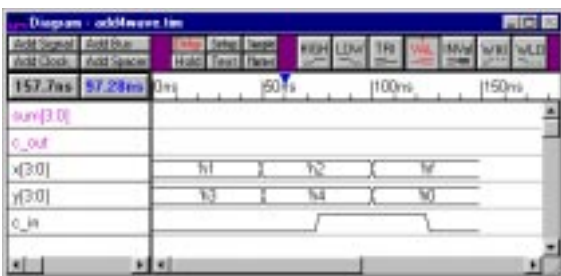

Figure 2: Stimulus vectors for the 4-bit adder circuit
Your drawing should be a mess, or at least look nothing like Figure 2 located in Section 2.5.
- Continue to enter values into each segment so that it matches Figure 2 and press the **OK** button to accept the last value.
At this point, the **c_in**, **x[3:0]**, and **y[3:0]** signals should look like Figure 2. Exact placement of edges is not required for this tutorial.